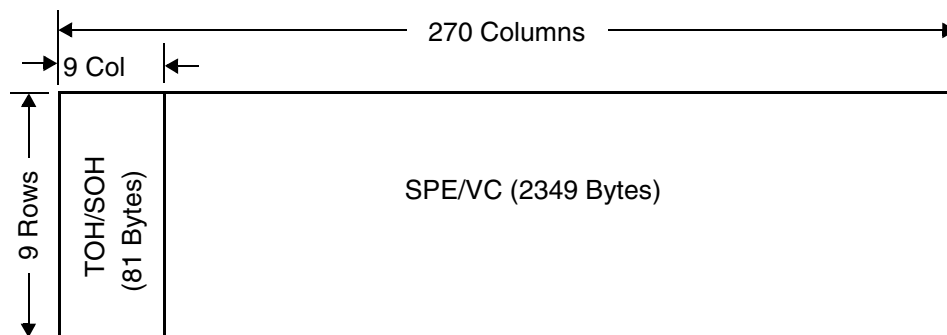

Figure 7: STS-3c/STM-1 Structure
For completeness, the structure of the STS-3c/STM-1 is illustrated also, in Figure 7. The first 9 columns of each row are shown as the TOH or SOH. This is not strictly true for SDH, because the first 9 columns of the fourth row of SDH frames is not considered part of the SOH. Instead, the Administrative Unit (AU) pointer bytes in this row are grouped with the VC to form an AU-4. Again, we will follow the SONET convention and include them with the TOH/SOH description.